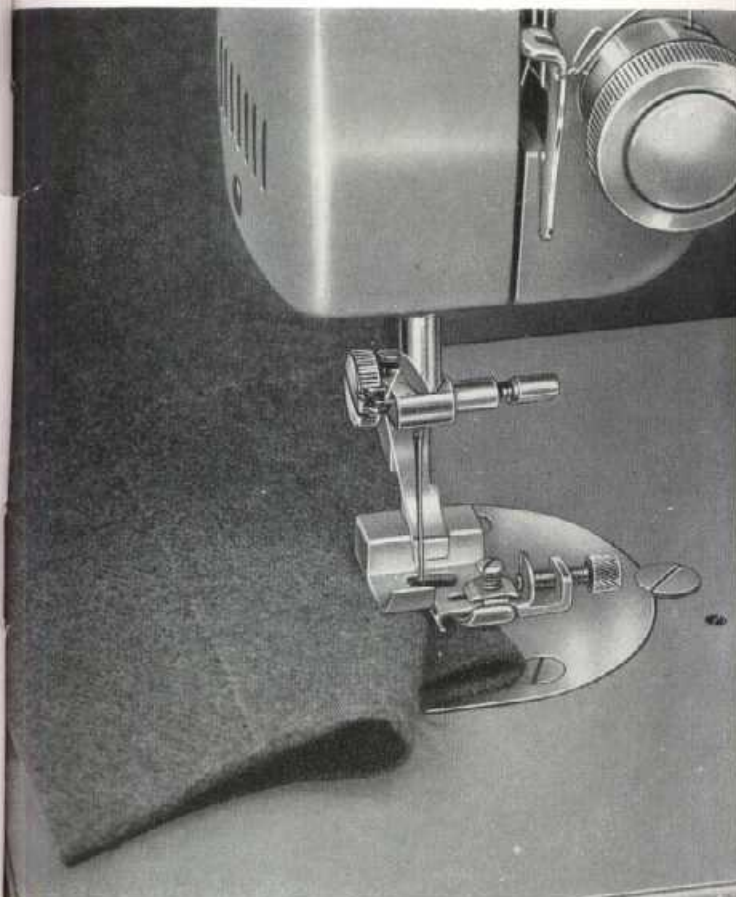

Fig. 92
- 1) Place hem of garment under the Blindstitch Foot (see Fig. 92), then lower the Blindstitch Foot and